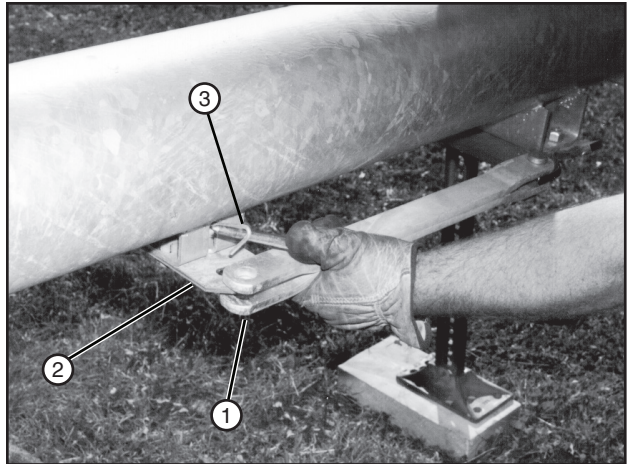

Figure 40-1 1. Tow Link Bar
5. Rotate tow link bar into the tow link carrier until the carrier spring latches into the hole in tow link bar. See Figure 40-1.